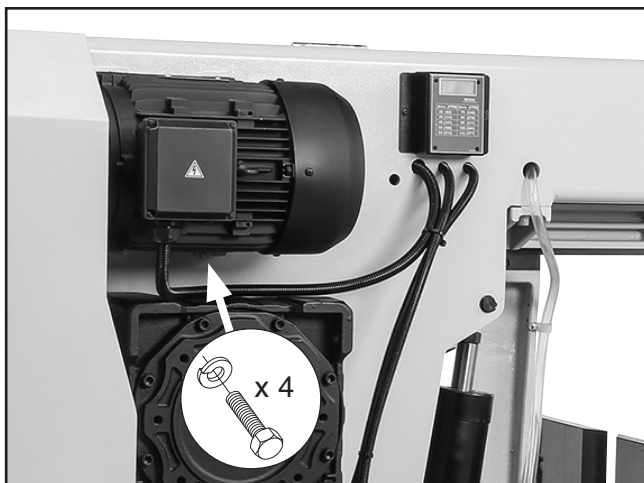

Figure 120. Motor mounting bolts location.
4. While an assistant holds motor, loosen (4) motor hex bolts (see **Figure 120**).